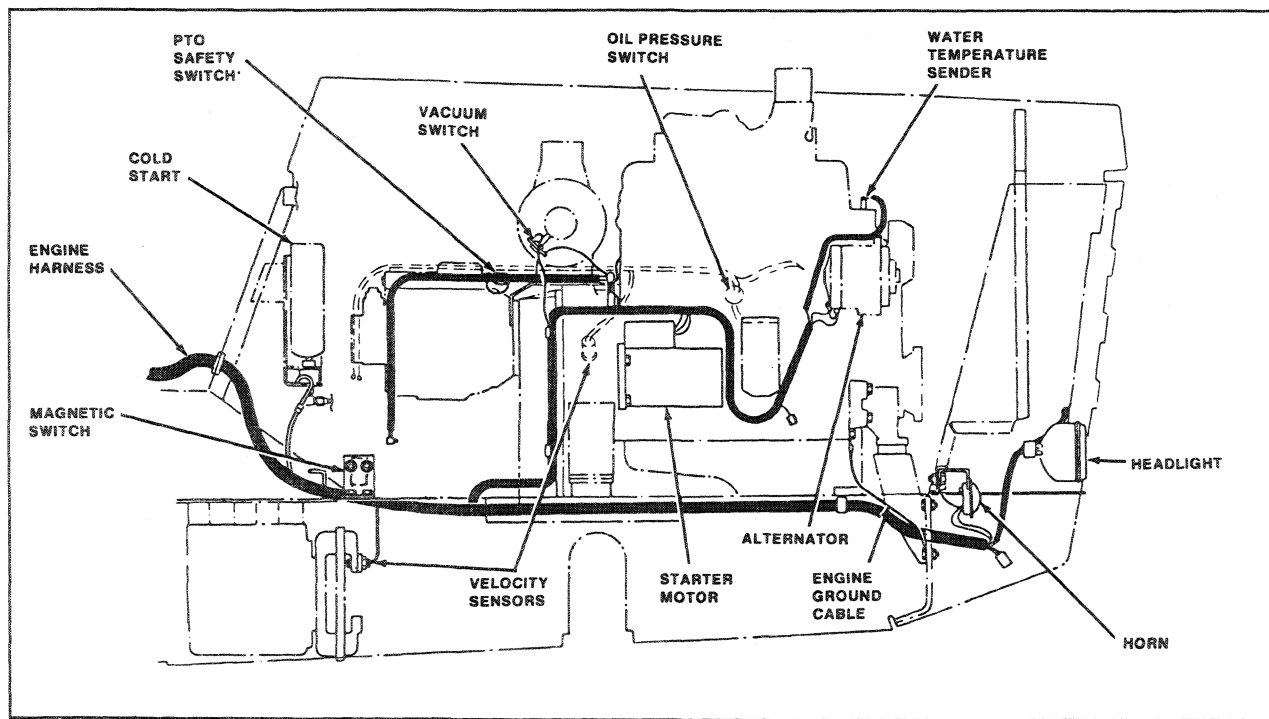

FIGURE 2-2: Engine Electrical Harnesses Removal
2. Disconnect harnesses from electrical accessories (Figure 2-2).
18. Connect electrical harness to electrical accessories (Figure 2-2).